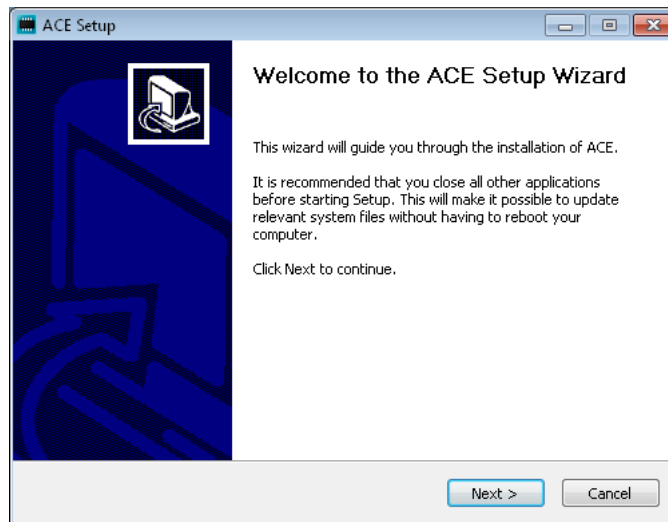

Figure 2.1: ACE Setup Wizard Step 1
Step 1: Close all open instances of ACE before clicking “Next” to proceed, Figure 2.1